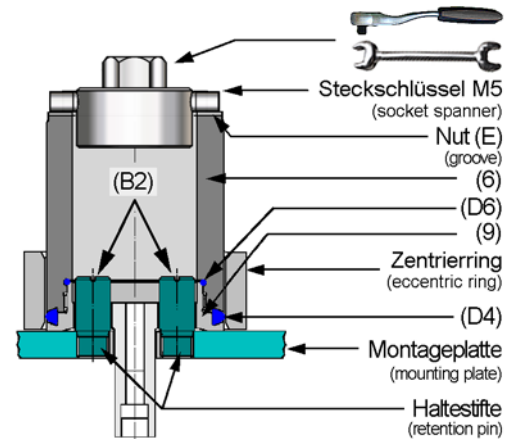
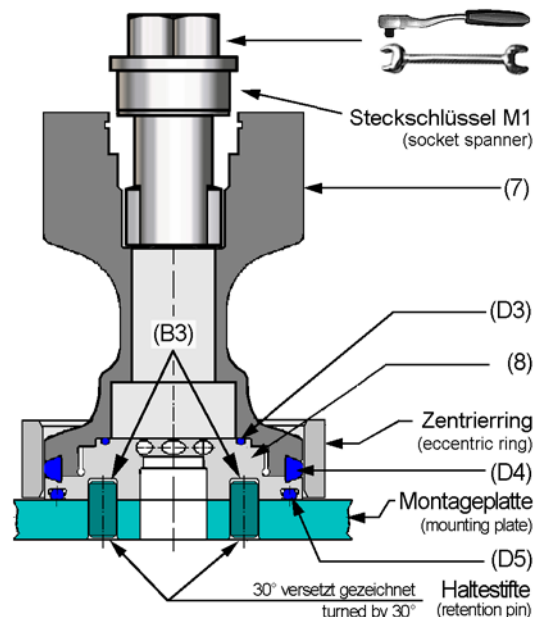
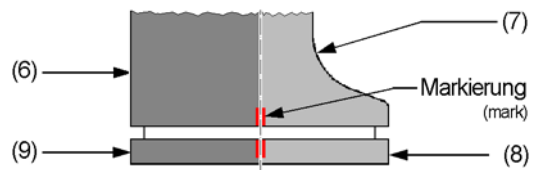

fig. 3
fig. 4
fig. 5
- Unscrew the lock nut (11) and remove the disc (10).
- Separate the lower piston (6) from the upper piston (7) in axial direction.
- Take off the split washer (13).
- Position the piston plate lower (9) about the holes (B)(2x) in the retention pin (2x) (see Fig3).
- Position the mounting lever into the slot (E) (Fig.3) and unscrew the piston plate (9) from the lower piston (6).
- Unscrew hexagon screw (14)(4x).
- Push lantern (15) in direction "X" until the hole (C) is freely visible.
- Unscrew the upper piston (7) about the holes (B3)(2x) and the retention pin. Counter with the hook wrench M4 at the hole (B1) (Fig.4 and Fig 7).
- Push off the insert (5), the upper seal (D1) and the upper bearing bush (4) of the piston (7) against direction 'X'.
- Unscrew the upper piston (7) with the socket spanner M1 from the upper piston plate (8).
- Dismount the Valve lift stop (16) in direction "X".
- Screw in piston plate (8) resp. (9) without the seal (D4) to the metal limit stop in the piston (6) resp. (7) and make a coloured mark (Fig.5).
- Screw out the piston plate (8) resp. (9) of the piston (6) resp. (7).
- Push the seal (D4) into the piston (6) resp. (7) and screw the piston plate (8) resp. (9) into the pistons (6) resp. (7) by hand.
- Position the eccentric ring (M3) on the seal (D4) (Fig.4).
- Clamp the mounting plate into the vice and fix the piston plate (8) resp. (9) (see Fig.3 or Fig. 4).
- Position the socket spanner M1 resp. M5 and screw the piston (6) resp. (7) up to the final limit mark (Fig.5).